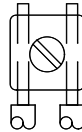

Figure 3
2. Break all in-out wire runs on supervised circuits to ensure the integrity of circuit supervision as shown in Figure 3. The polarity shown in the wiring diagrams is for the operation of the appliances. The polarity is reversed by the FACP during supervision. Refer to instruction sheets for SM, DSM or Cooper Notification power supplies for additional information.